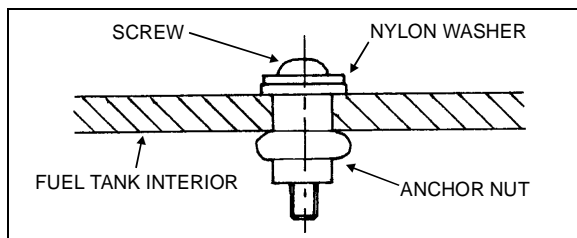

FIGURE 8: FUEL TANK REPAIR
5. Place assembly in drill hole. Tighten screw by 10 complete turns. Refer to Fig. 8.